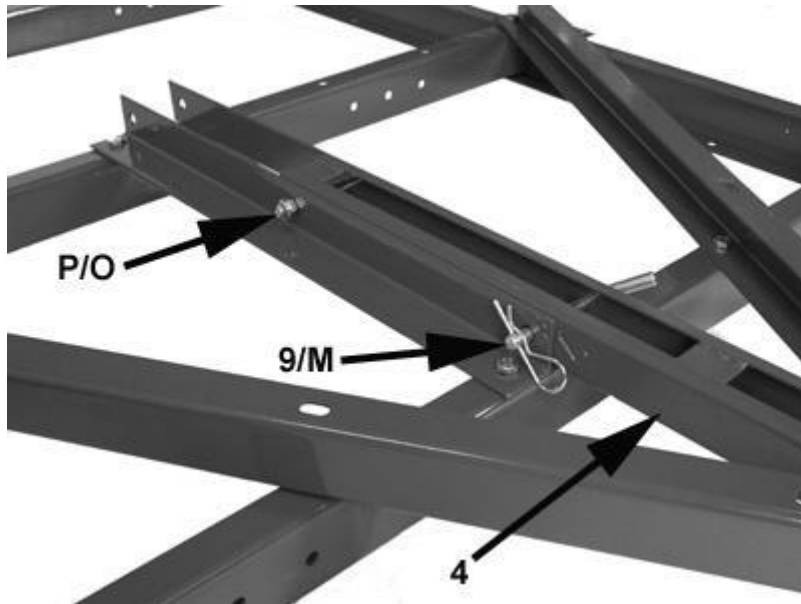

Figure 2-3
7. Install tow bar (4) with the opening facing up as shown between tow bar brackets. See figure 2-3.
8. Install tow bar pin (9) and lock pin (M).
9. Install M12 x 90 bolt (P) and M12 nylon lock nut (O).